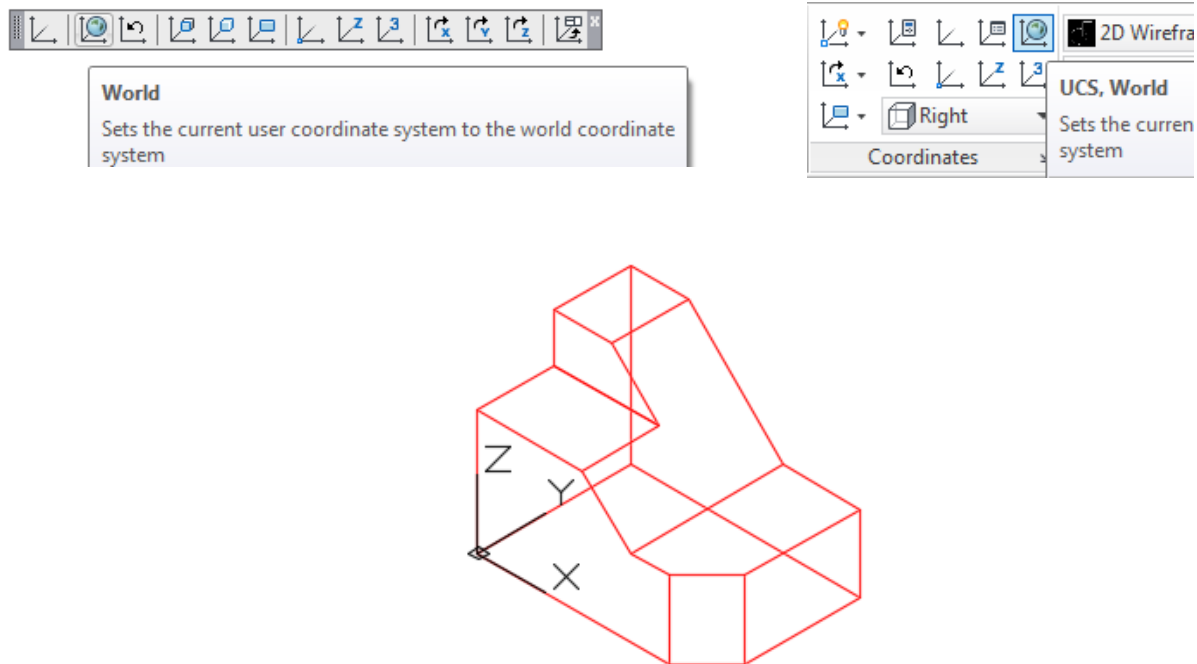

Figure Step 13
Step 13 Click the World UCS icon. The UCS icon will now be located as shown in the figure. (Figure Step 13)